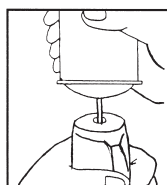

Fig. 1
3. Follow instructions on gas container. Push tip into filling valve and pump lightly for best result. See Fig. 1.